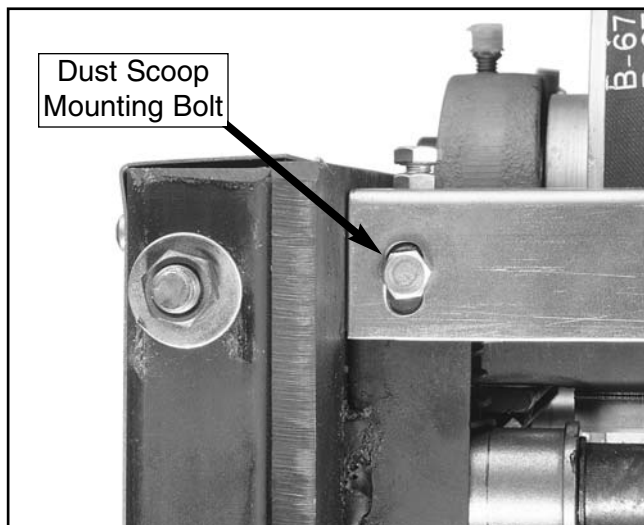

Figure 12. Location of dust scoop bolts.
3. Loosen the dust scoop mounting bolts located at each end of the scoop as shown in **Figure 12**.